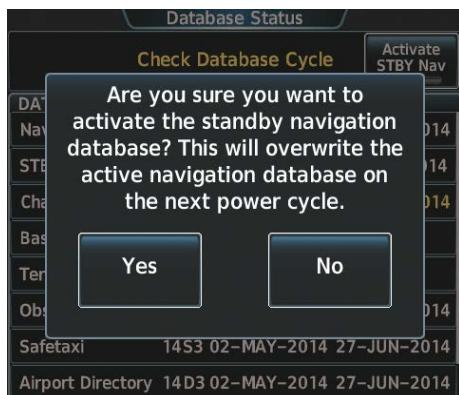

Figure B-10 Update Active Prompt
- 3) A prompt similar to Figure B-10 is displayed, touch **Yes** to overwrite the Active Navigation Database with the Standby Navigation Database. Touch **No** to cancel.
The synchronization progress may be monitored on the Database Status Screen on the Touchscreen Controller (Figure B-10). This screen shows the synchronization status of each applicable database as follows: